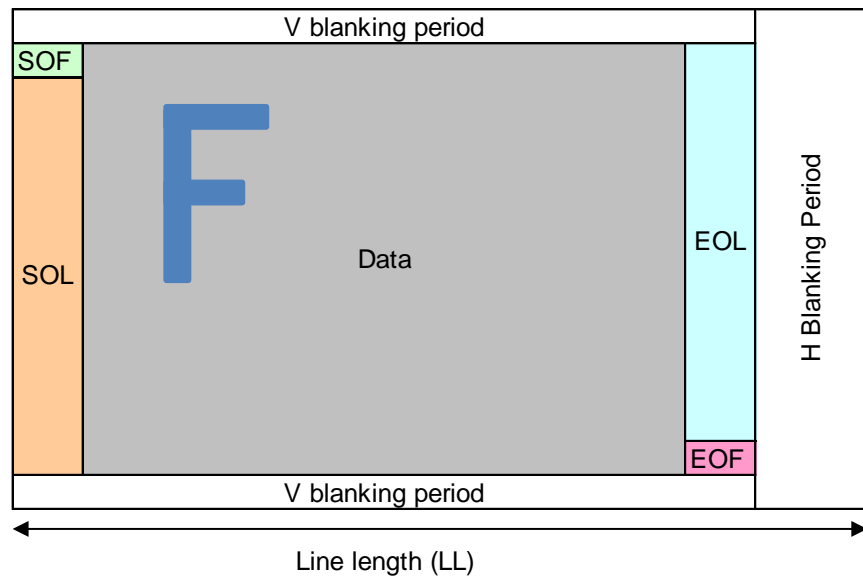

Figure 14: Encoded Frame Syncs
To facilitate system acquisition synchronization the KAC-06040 places synchronization words (SW) at the beginning and at the end of each output row as indicated in the following Figure 14. This is performed for each of the 8 LVDS output banks providing frame, line, and output synchronization. See the *KAC-06040 User Guide* for additional detail on LVDS and Encoded Sync output.